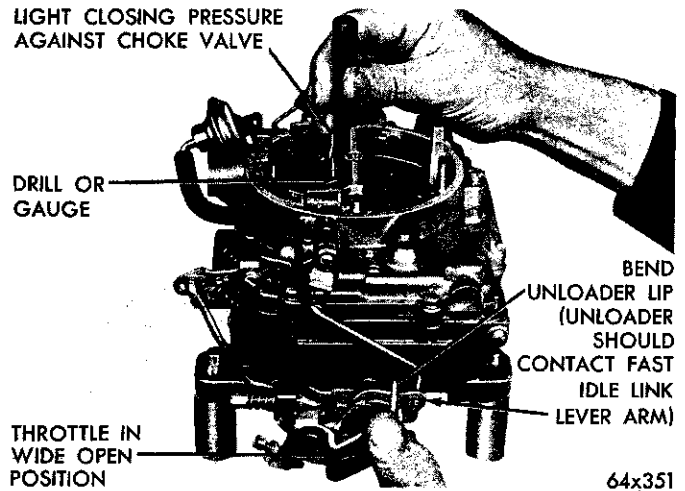

Fig. 17—Testing Choke Unloader (Wide Open Kick)
(1) With the throttle valves in the wide open position, it should be possible to insert Tool T109-80 (3/8 inch) gauge between the upper edge of the choke valve and the inner wall of the air horn, as shown in Figure 17.
(2) If an adjustment is necessary, bend the unloader lip on the throttle shaft lever, using Tool T109-41, until correct opening has been obtained.